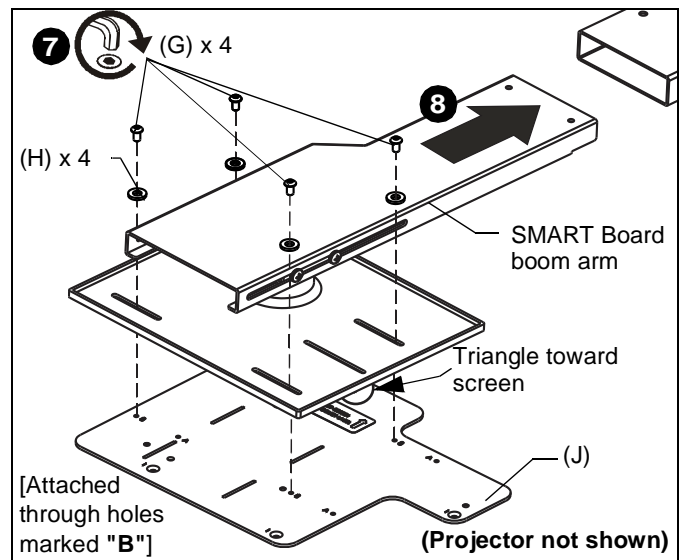

Figure 10
7. Attach interface bracket (J) with attached projector to end of the existing SMART Board boom arm through the mounting holes marked as "B" using four M4 x 8mm button head cap screws (G) and four M4 washers (H). (See Figure 10)
8. Slide SMART Board boom arm into the SMART board mount to correct location for both boom extension and height according to projector model and SMART Board model, and following information in Table 2. (See Figure 10)